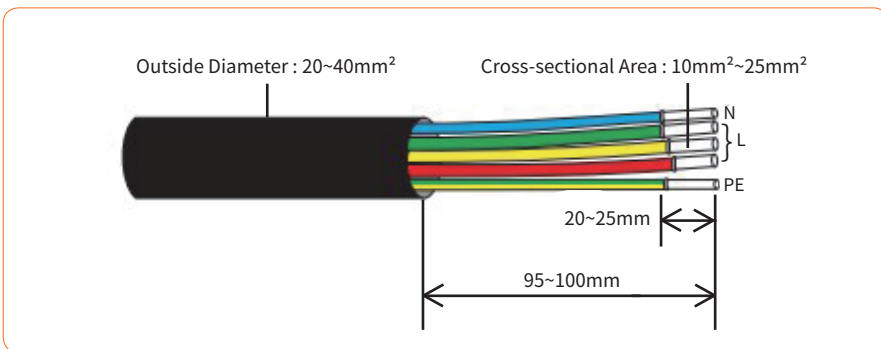

Figure 4-17
① peel the insulation sleeve of AC cable off for 95~100mm, and peel off the end of 3L / PE / N wires for 20~25mm, as shown in Figure 4-17: